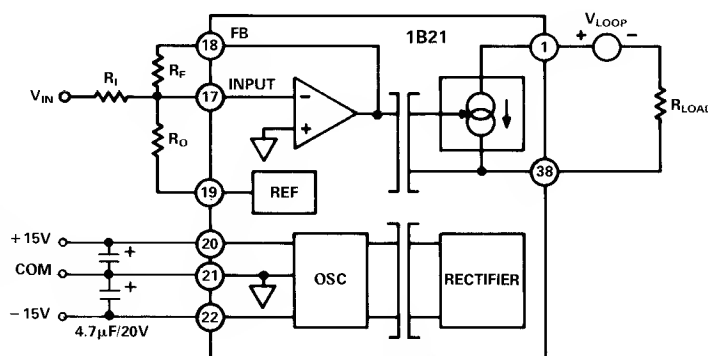

Figure 1. Basic Interconnections
Input Configurations: The 1B21 has been designed with a flexible input stage for a variety of input and output ranges. The basic interconnection for setting gain and offset is shown in Figure 1. The output of the internal amplifier is constrained to 0 to -5V , which maps into 0 to 20mA across the isolation barrier. Thus to create a 4mA offset at the output, the input amplifier has to be offset by 1V.
TC Considerations of External Resistors: The specifications for gain and offset temperature coefficient (TC) for the 1B21 exclude the effects of external components. The total gain TC for the circuit in Figure 1 is: